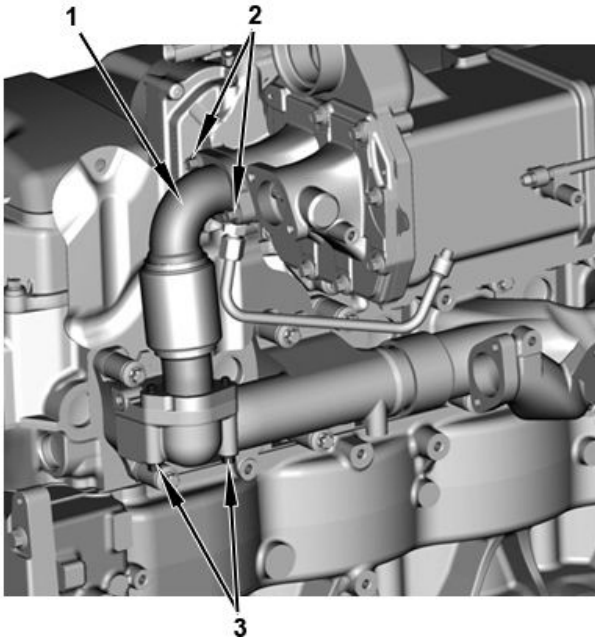

Figure 15. EGR Inlet Tube (Inside).
19. Remove EGR inlet tube (Figure 15, Item 1), remove two heat-resistant bolts and gasket (Figure 15, Item 2), and remove two heat-resistant bolts and gasket (Figure 15, Item 3). Discard bolts and gaskets.